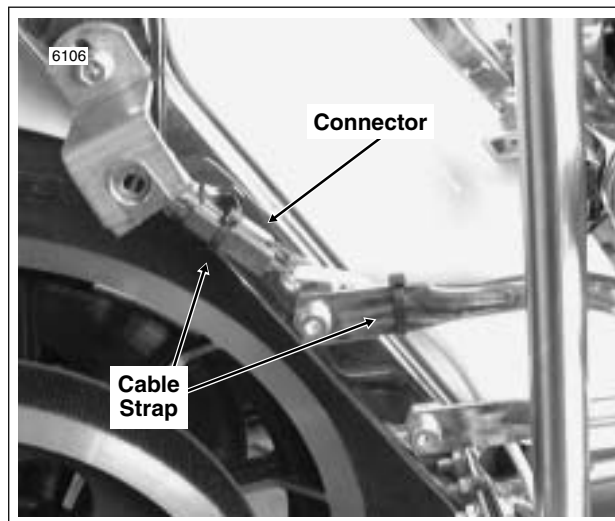

Figure 8-19. Install Cable Straps
8. Mate pin and socket halves of 2-place Deutsch connector. Secure connector and conduit to saddlebag guard and saddlebag support bracket using **new** cable straps. See Figure 8-19.